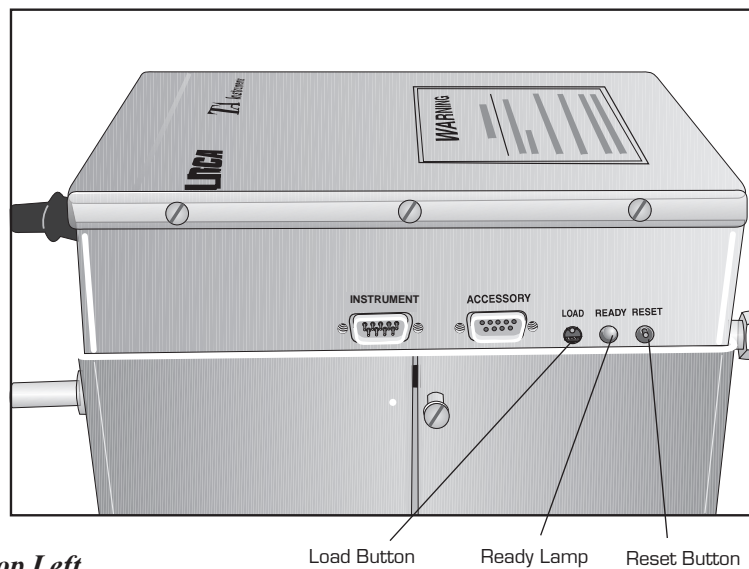

Figure 2.19
7. After the software has been successfully loaded, press the Reset button on the side of the LNCA CE top section, see Figure 2.19 for its location. This will retrieve the calibration information used for the LNCA CE and reset the accessory. (You may need to turn the power to the LNCA CE off, and then on again, if the Reset is not successful.)